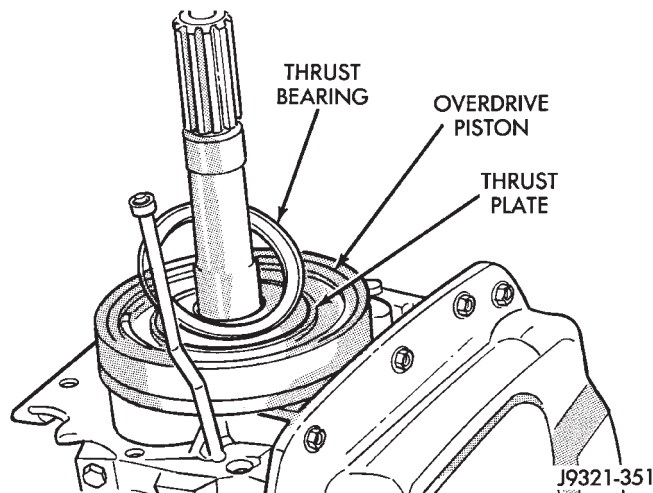

Fig. 5 Thrust Bearing And Plate Removal
(8) Remove thrust bearing and thrust plate from overdrive piston (Fig. 5).